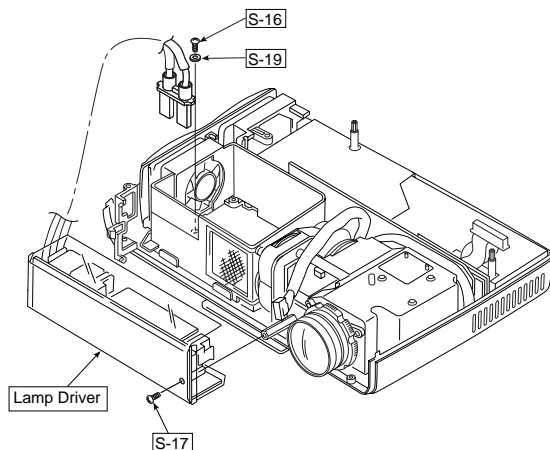

Fig. 7
- 7) Lamp driver (See Fig. 7.)
Remove the two screws (S-16 and S-19) shown in Fig. 7, and dismount the lamp driver.